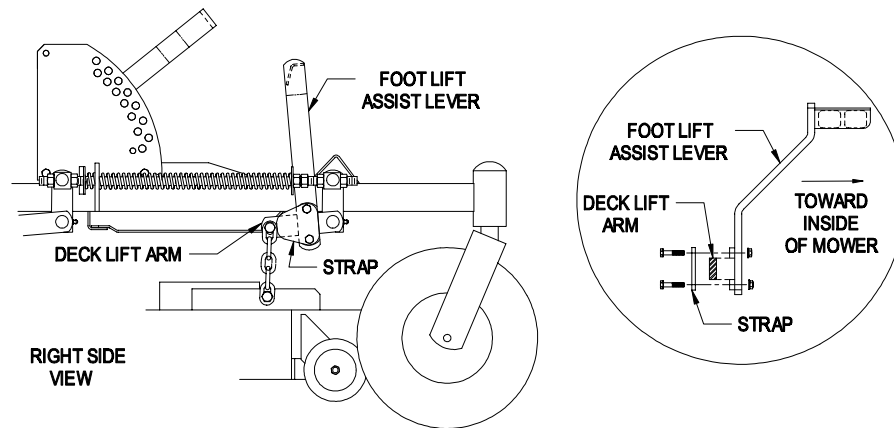

FIG. 2
- Remove the lift assist arm from the rear deck lift arm or the seat base frame (the lift assist is fastened in this position for shipping only) and attach to the front deck lift arm as shown in Fig. 2.